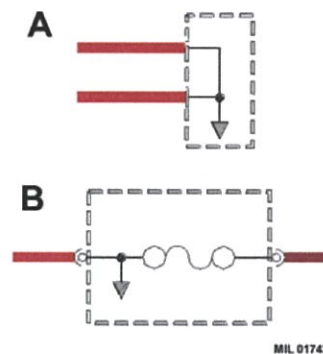

Fig 7 Line types II
19 The “cup and ball” symbol indicates the male and female halves of the connector (refer to Fig 7).
19.1 Plug on lead, fly lead (Fig 7 (A)), wired directly to the component.
19.2 Connector plugs directly into circuit (Fig 7 (B)).